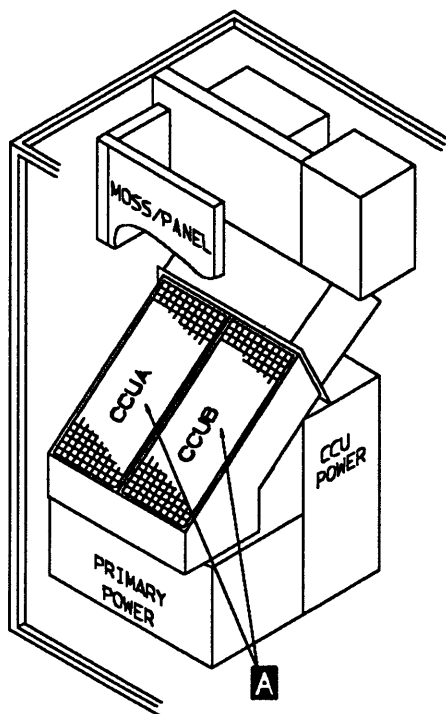
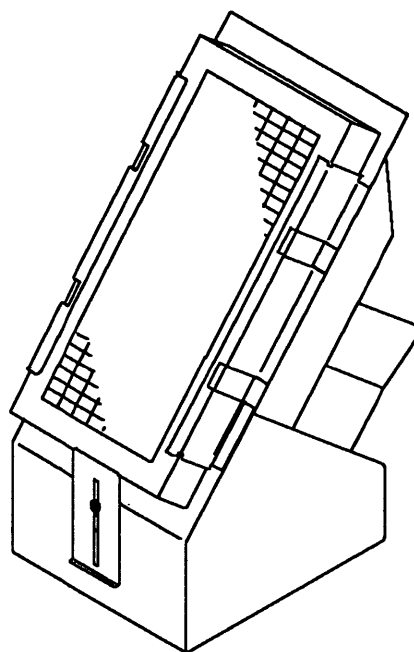

Figure 5-157. SAC Air Moving Device Unit Location
Figure 5-158. SAC Air Moving Device
7. Refer to Figure 5-157 and to Figure 5-158 and remove the Air Moving Device(s) as follows: